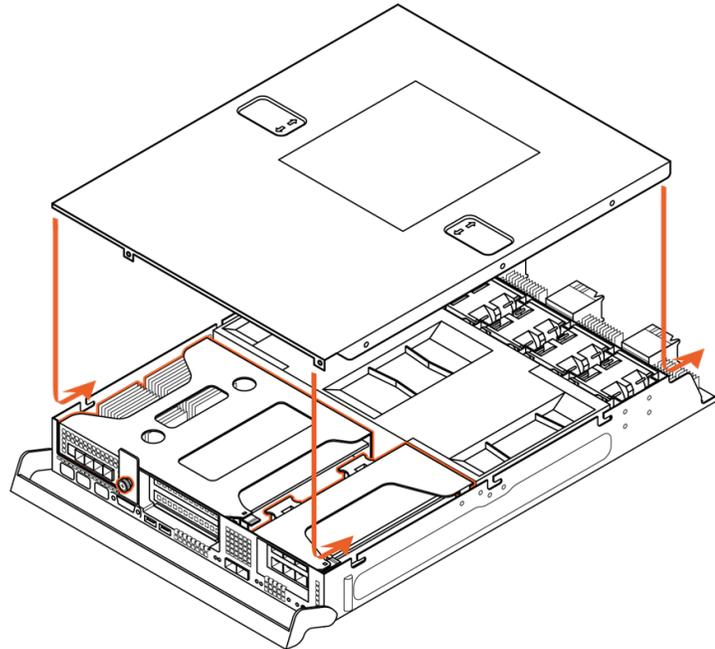

Figure 13-17. Replacing the Controller Cover
1. Align the pins on the left and right edges of the cover with the slots in the controller body, as shown in Figure 13-17.